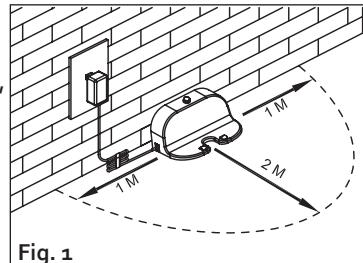

Fig. 1
2. Make sure that there is an area of at least 1 m free on the left and right sides of the charging station. In front of the charging station, there must be a free area of 2 m (Fig. 1). If this is not the case, it is possible that the vacuum cleaner cannot find the charger when it must charge.